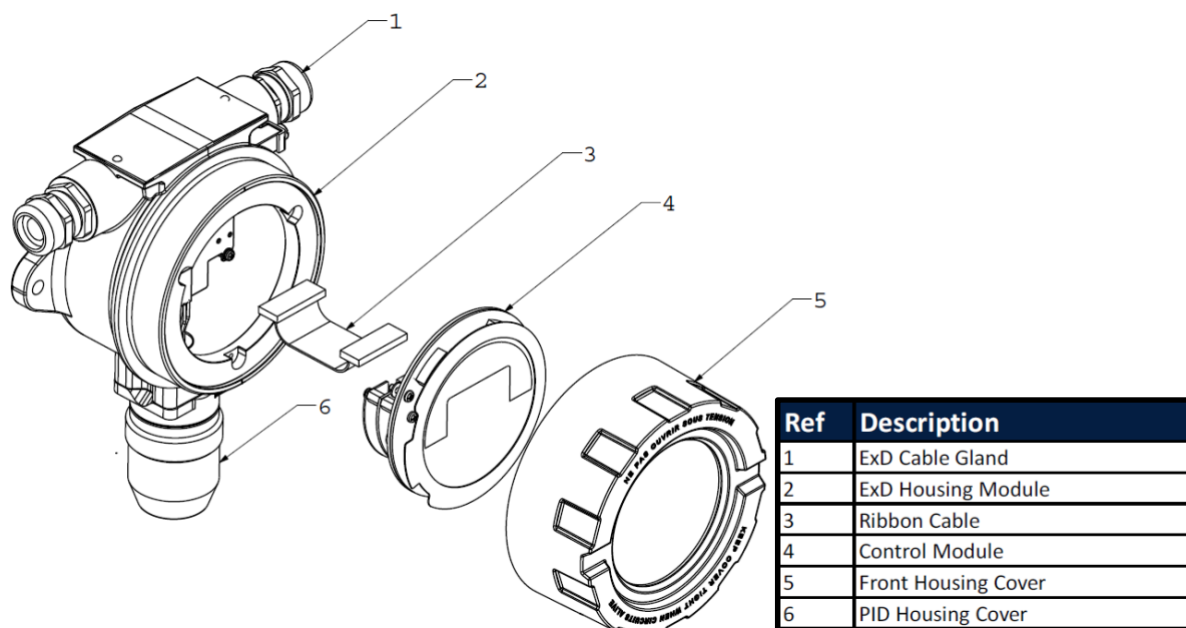

Figure 2 - Exploded view of the FALCO 2 11.7
- Unbolt the three bolts holding the control module item 4 in Figure 2 from the ExD housing module item 2.
- Disconnect the ribbon cable Figure 2 item 3 from the control module Figure 2 item 4 from its ribbon connector to get access to the terminal blocks.
- Feed the cables through the ExD cable glands Figure 2 item 1 and connect them to the terminal blocks as required. Refer to the current loop configuration section on the following pages.